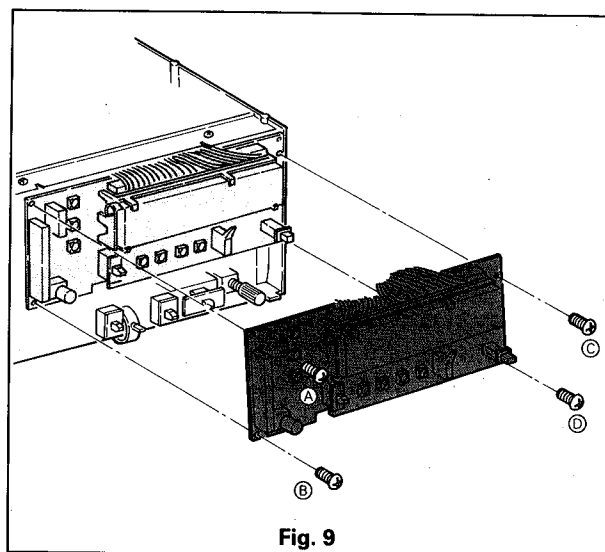

Fig. 9
- A. Remove the four screws (A B C and D) retaining the PCB Timer as shown in Fig. 9.